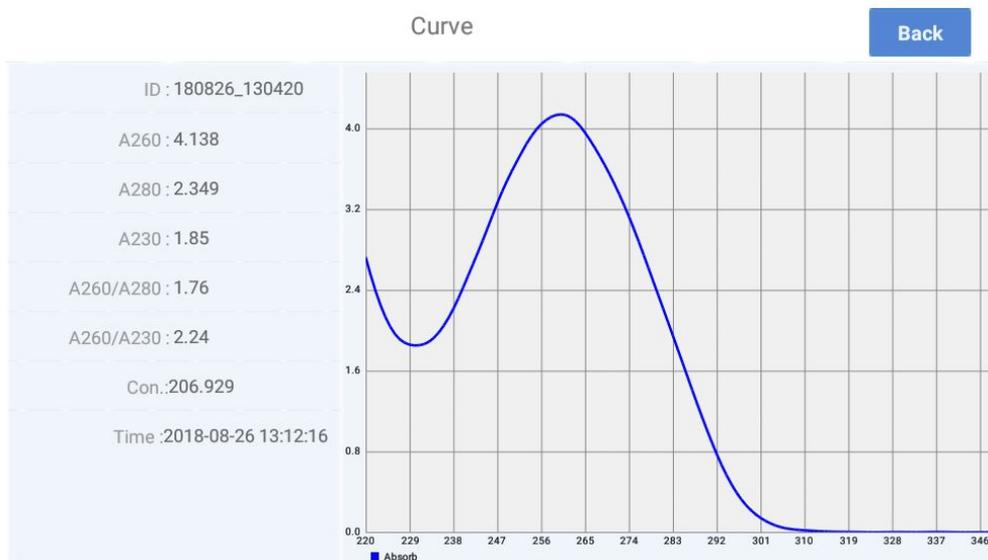

Fig 4.8 Nucleic acid full wavelength detection data.
- ② **Spectrum Data** : Click it to enter the interface Fig 4.8